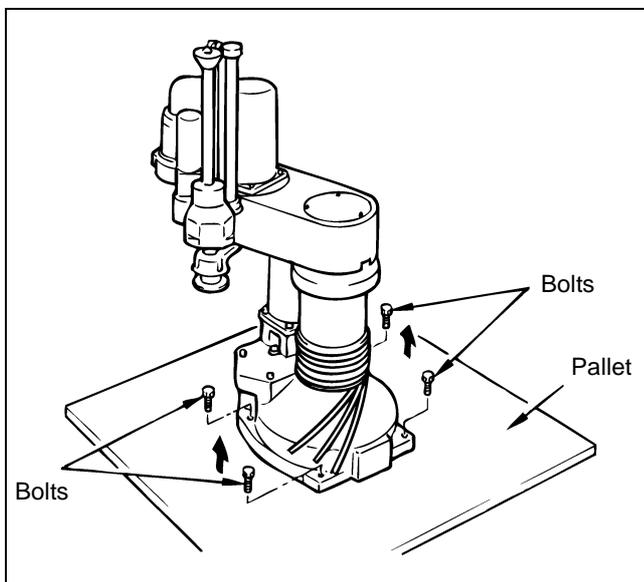

Figure 2-5 Unbolting
- (5) Operator A removes the 4 bolts securing the robot unit to the pallet shown in Figure 2-5.
- (6) Operator B operates the crane to carry the robot unit to the installation point.